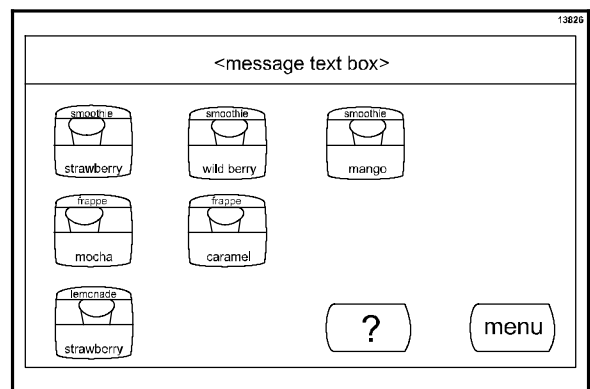

Figure 157
- Press the MENU key from the Beverage Selection screen to display the Main Menu screen. (See Figure 157.)